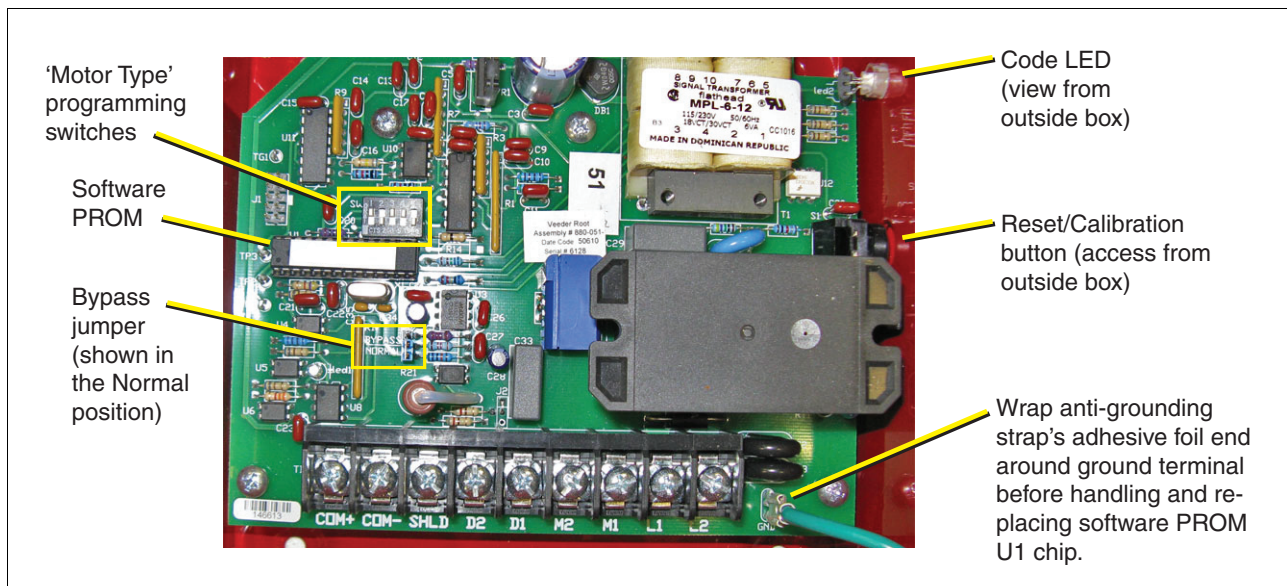

Figure 1. Locating software upgrade components inside IQ box
2. Get the antistatic wrist strap from the component replacement kit. Slide the looped end of the antistatic wrist strap onto your wrist and then wrap the adhesive foil end around the metal ground terminal inside the IQ box (see Figure 1).
1. Place the Bypass Jumper in the Bypass Position (see Figure 1)
2. Set the five Motor Type Programming DIP switches (Figure 1) to the positions indicated in Table 1 for your Motor Type.
5. Locate the Code LED and the Reset/Calibration button (see Figure 1). Depress the Reset/Cal button 20 seconds as you observe the Code LED flashing sequence shown in Table 2. Note the number of Green flashes for your Motor Type (for use in Steps 6 and 14 below).